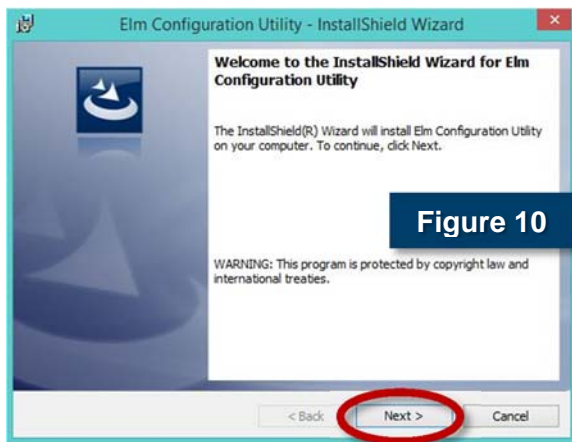
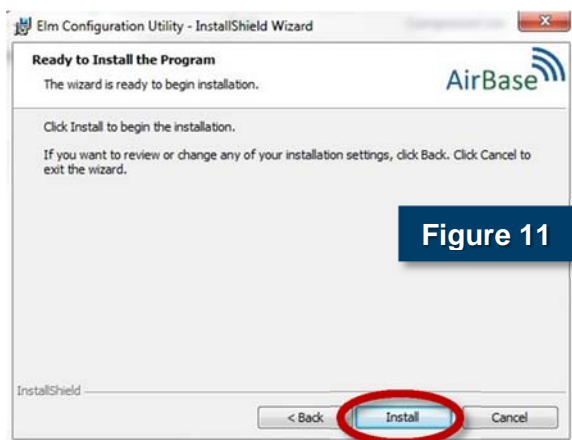
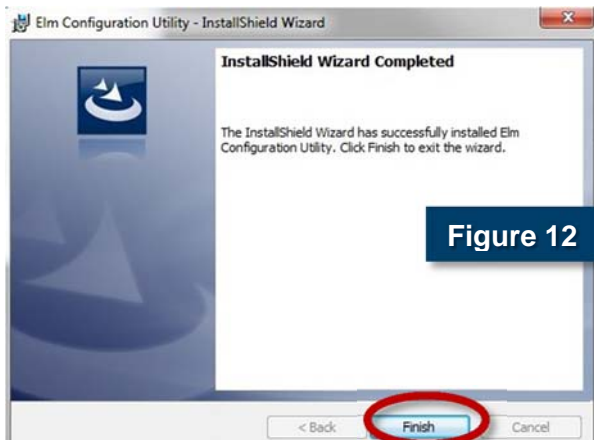

Figure 10
Figure 11
Figure 12
4. Click '**Next**' on the installation wizard welcome screen (Figure 10), click '**Install**' (Figure 11), and then click '**Finish**' (Figure 12) to complete installation.